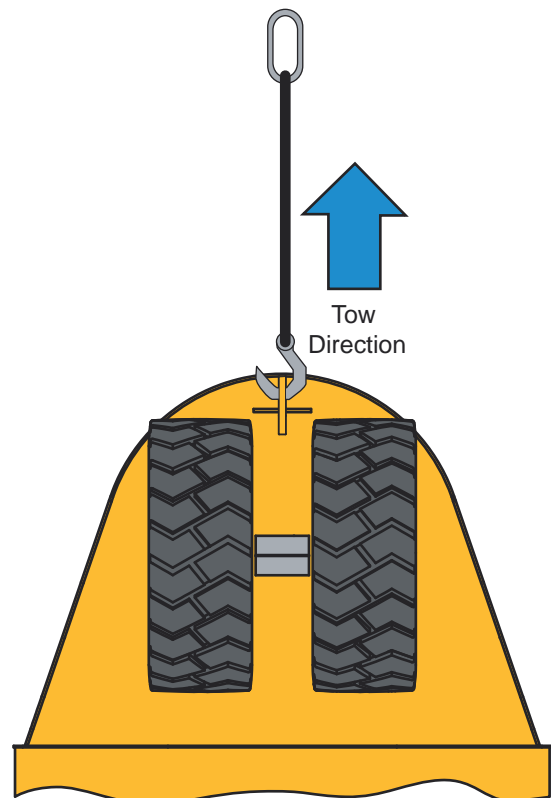

Figure 5-7-1 Towing Direction
The towing eye is located at the rear of the machine, near the rear tires. See Figure 5-7-1. The towing eye is rated at 70,000 lbs. The rear tires should be positioned to be parallel to the centerline of the machine, and the direction of pull should be parallel within 15 degrees to the centerline of the machine.
1. Connect chains as shown in Figure 5-7-1.
Tow straight backwards only, parallel within 15° to the centerline of the machine (see Figure 5-7-1). Failure to do so may cause damage to machine.